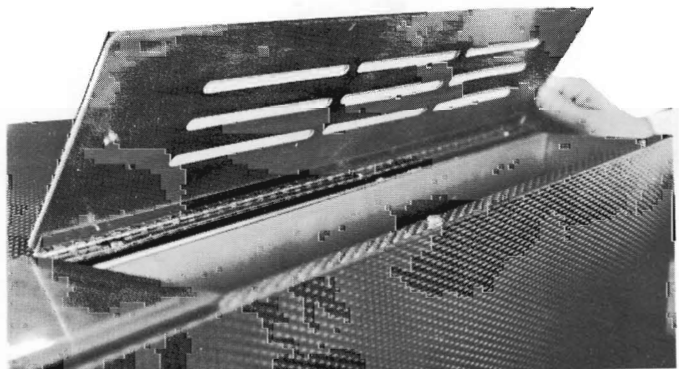

FIGURE 3 — WATER RESERVOIR
1.12 Water Reservoir (Figure 3) - The water reservoir provides an ample water supply for cooling the discharged steam and water. The reservoir should be filled with distilled or demineralized water. It should be filled to the line marked at rear of reservoir and should never drop **more than** four inches below the line. A rubber drain hose attached to the brass fitting beneath the autoclave facilitates proper drainage and cleaning. For installation information refer to YL2-094075 - Installation of the **MAGNA-CLAVE**.